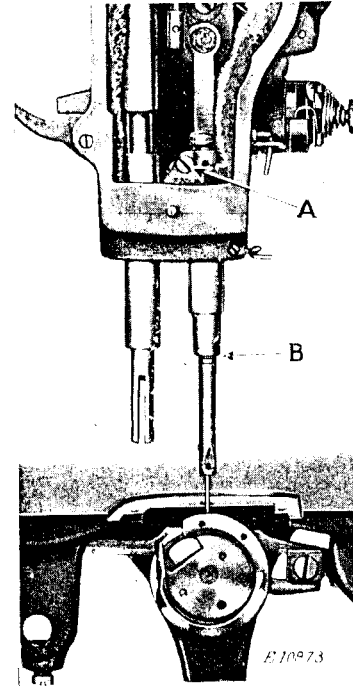

Fig. 17. Showing Needle Bar Set at the Correct Height
Turn the balance wheel over toward you until the needle bar moves down to its lowest point. When the needle bar is in this position, the upper timing mark on the needle bar should be just visible at the lower end of the needle bar bushing, as shown at B, in Fig. 17.
In case the needle bar is not set at the correct height, loosen the needle bar connecting stud pinch screw (A, Fig. 17) and move the needle bar up or down until the upper timing mark is in the position, as instructed above, then securely tighten the screw (A).